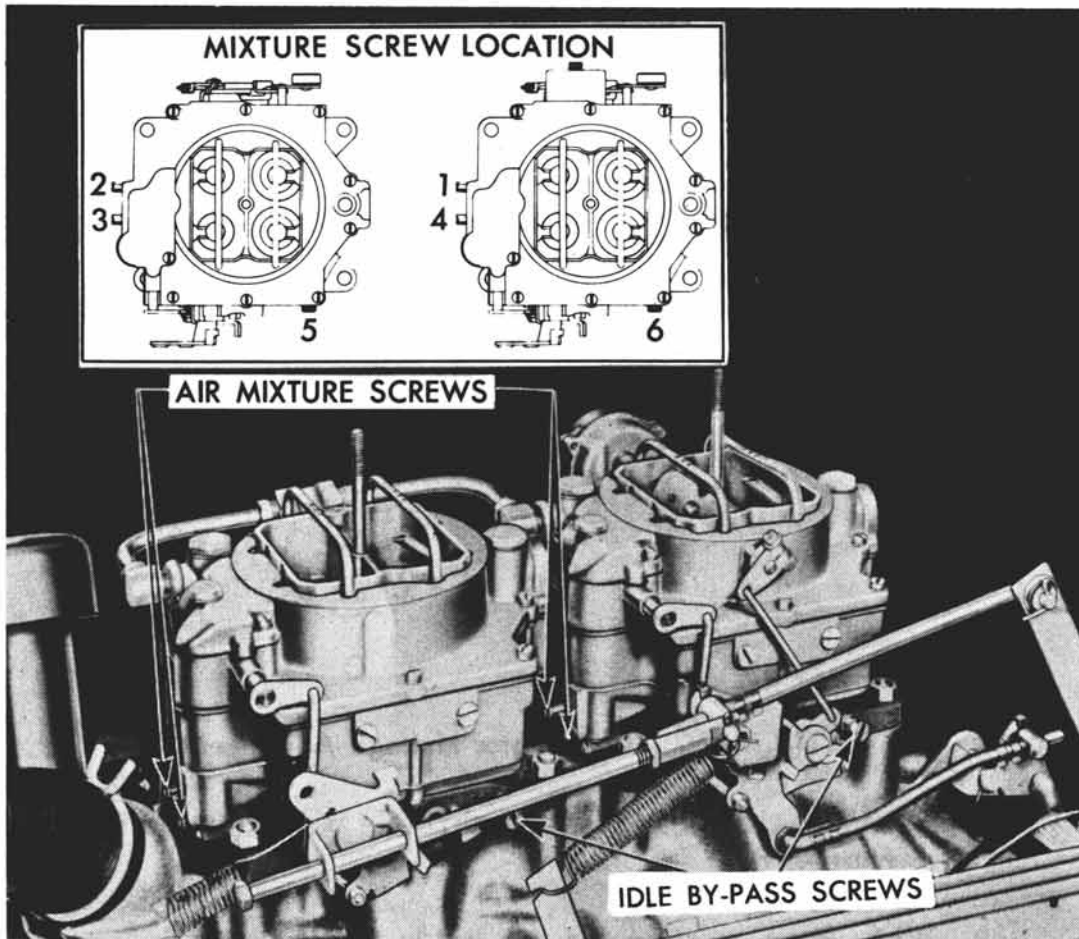

Fig. 5-DC Idle and Mixture Screw Location
3. For initial adjustment adjust idle by-pass screws two (2) turns off of seat (Fig. 5-DC), turn each screw equal turns on each carburetor.
4. Adjust 4 air mixture screws individually to their lean limit then back off or enrich one (1) full turn.
6. Adjust idle by-pass screws (5, 6) together, (equal amount of turns counterclockwise) to achieve 600 RPM. (On models equipped with Powerglide, selector lever must be in Drive (DR) and Brake Set).
7. Adjust mixture screw number 1 on rear carburetor (Fig. 5-DC) until highest vacuum reading or best engine "feel" and highest engine RPM is obtained.